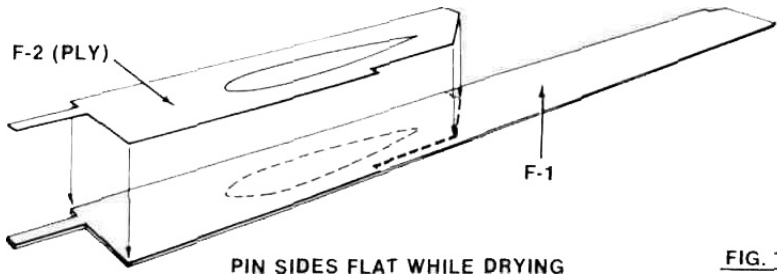

FIG. 1
1. Glue F-2 (ply) doublers to F-1 sides — make a left and a right side. See Fig.1.